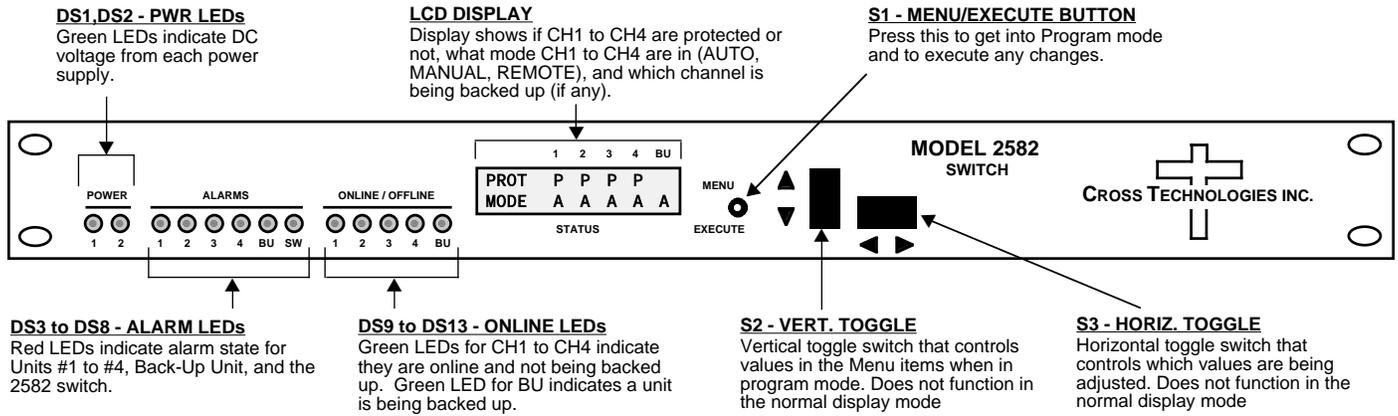

FIGURE 2.2 2582-143 Front Panel Controls and Indicators
Figure 2.2 shows the front panel controls and indicators.
5. Be sure DS1 & DS2 (green, DC Power) are on and DS3 to DS8 (red, Alarm) are off (Figure 2.2).
Alarm indications appear on the LEDs (See figure 2.2).